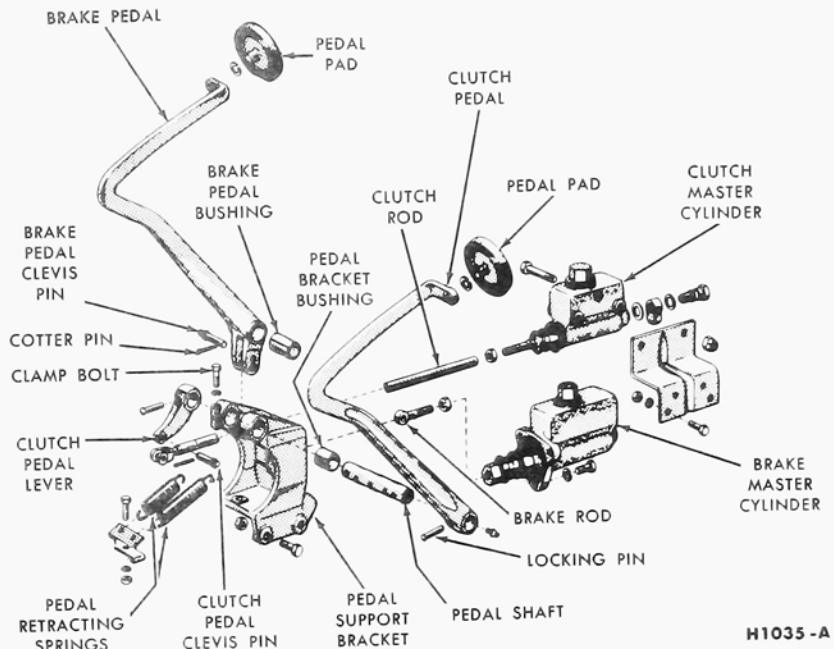

FIG. 15—P-350 Series Brake Pedal and Related Parts
2. Remove the pedal pads from the clutch and brake pedal (Fig. 15).